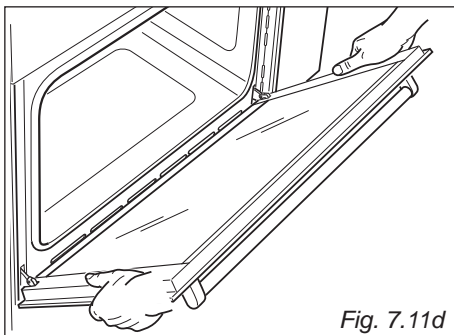

Fig. 7.11d
- Hold the door as shown in fig. 7.11d.